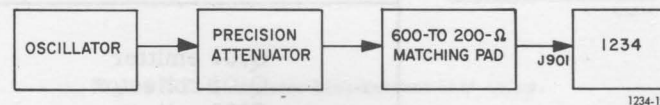

Figure 5-2. Test and calibration setup for 1234 SWR Meter.
- Connect test equipment to the instrument as shown in Figure 5-2.
1234 Standing-Wave Meter as shown in Figure 5-2.
Perform the test and adjustment procedures of paragraphs 5.6.4 through 5.6.10 with setup shown in Figure 5-2 unless otherwise specified.